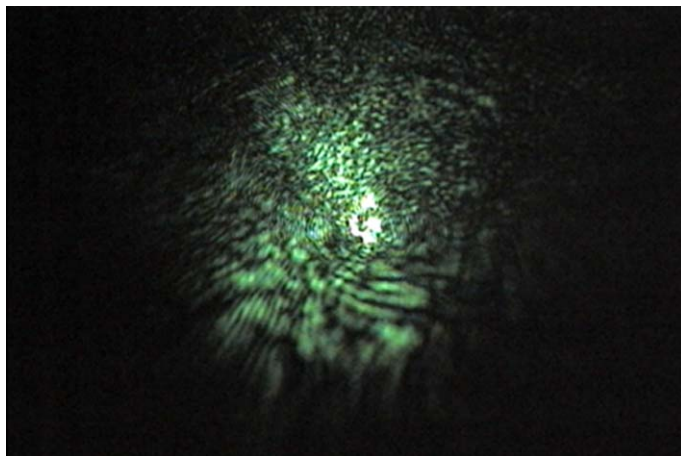

Fig. 12-10. Laser beam aimed at the tip apex
3. Watch the probe from a side and on the screen of the optical viewing system and aim the laser beam at the tip apex (Fig. 12-10). Move the laser beam by rotating the screws 10 and 11 (see (Fig. 12-5)).